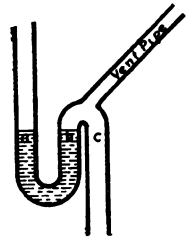

FIG. 340 VENTING
**351. Venting of Traps.** In order to diminish the possibility of the loss of water seals in traps through siphonage, a system of *venting* has been introduced. An opening made in the top of the bend between *b* and *c* (Fig. 340) prevents siphonic action, since the atmosphere is then continually acting on the